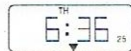

Figure 6
6.1 Pressing the "RESET/RECALL" key four times can unlock the keyboard lock, and the " " disappear, it is shown as Figure 6.